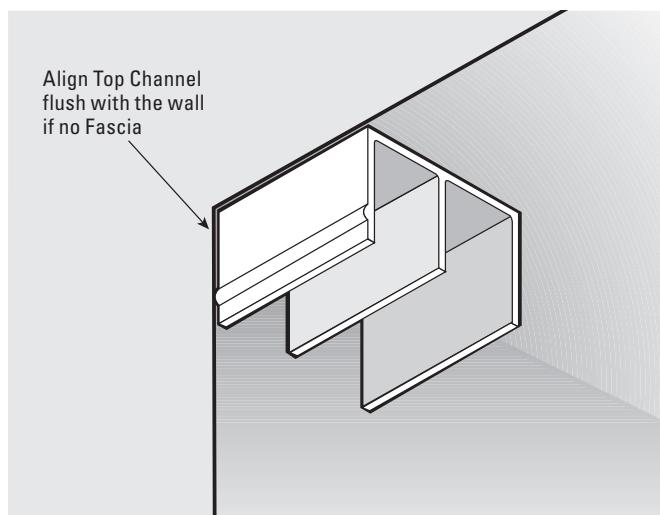

Figure 1
C. When cut to proper length, install Top Channel up to the top front of closet opening making sure that the front of the Top Channel is flush with outside walls. Hold up the Top Channel in the desired position and with your pencil, mark where the pre-drilled holes are in the Top Channel (See **Figure 1**).